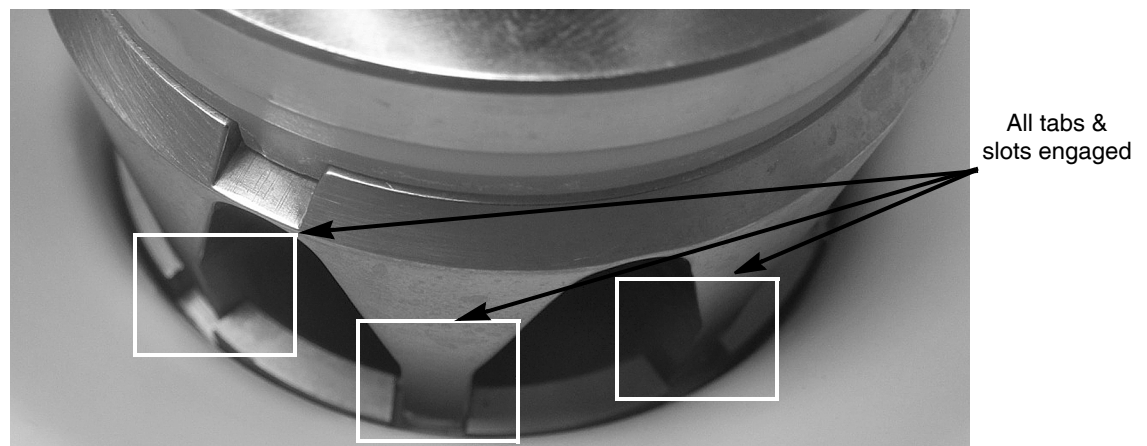

Figure 29.
3. Carefully rotate the extruder head until the tabs on the extruder head drop into the slots on the evaporator plate, as shown in Figure 29. When the auger/extruder head assembly is rotated to the proper position, it will drop about 1/4 inch to more fully engage the motor drive shaft.